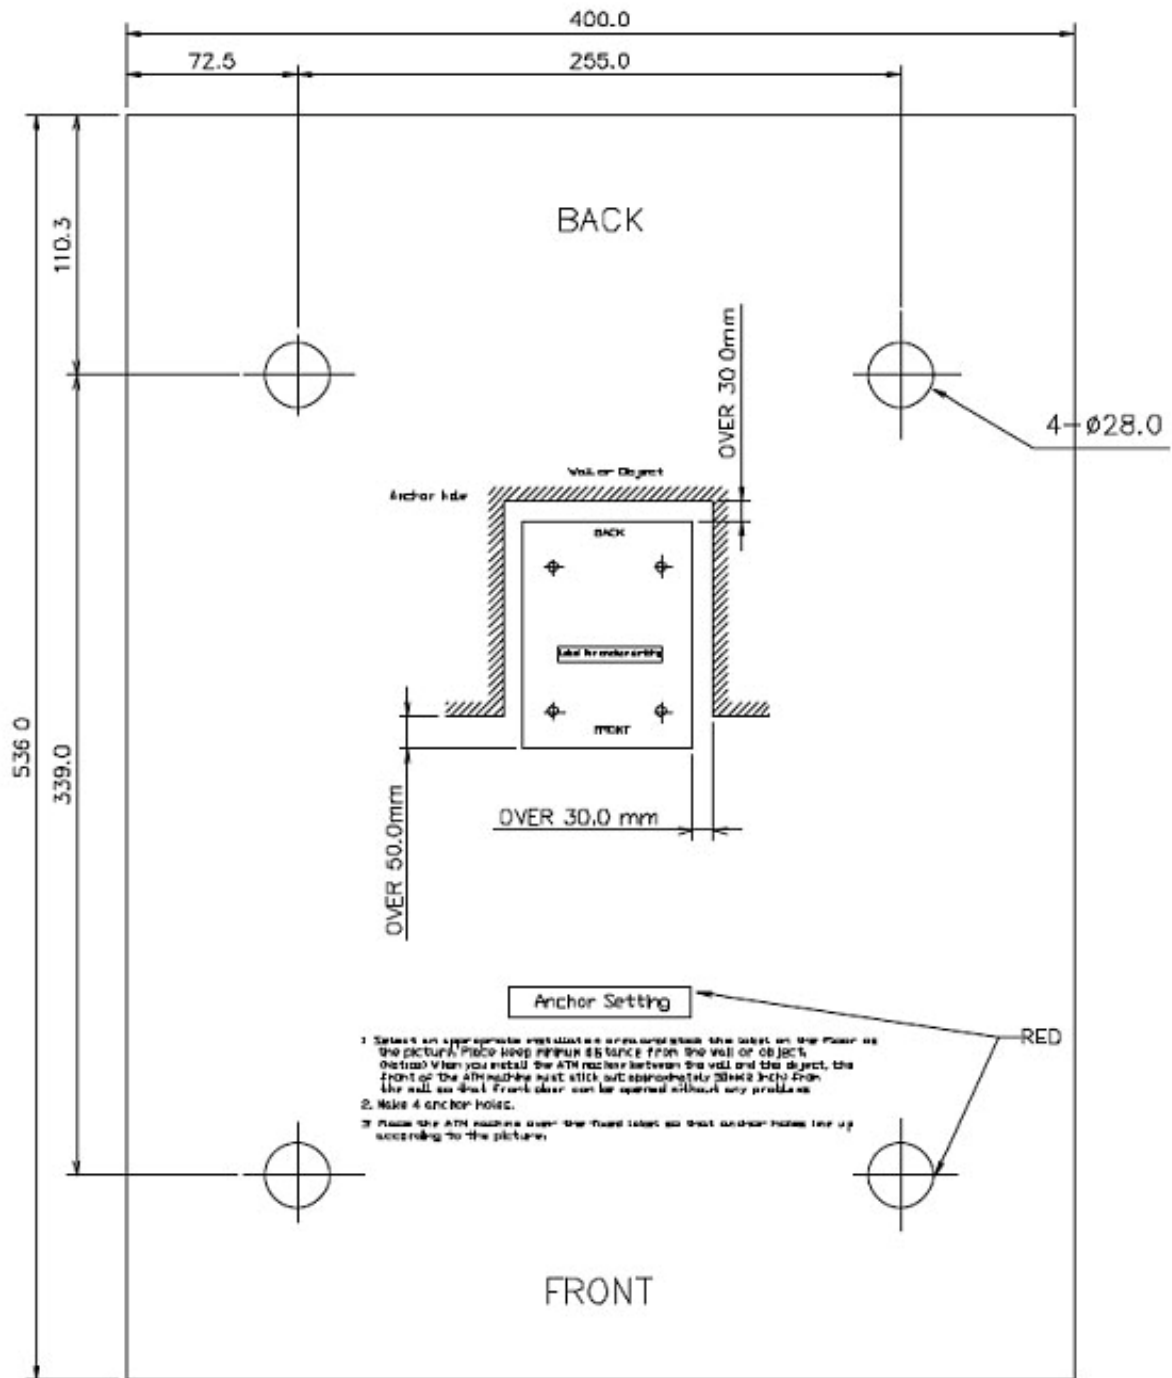

Fig.3 Anchor diagram of NH-2900 ATM
1. Place the “Anchor bolts locate sheet” at the place where the machine is to be installed. (Refer to Fig.3)
7. After the anchor nuts are in place according to the anchor holes on the bottom of NH-2900 ATM, tighten the anchor bolts tightly. (Refer to Fig.3)